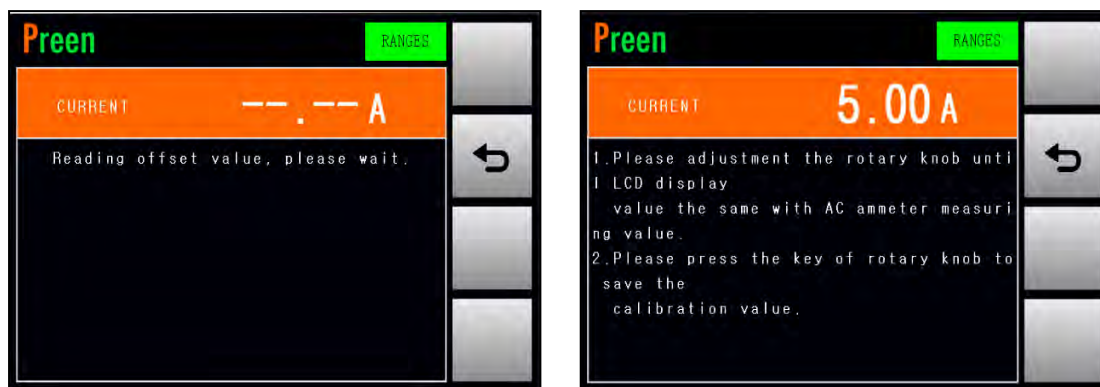

Figure 4.14 Enable the calibration of the HI-Range RMS current
3. Press the output & reset button on the front panel to enable the calibration of the HI-Range RMS current (refer to Figure 4.14), and then the product will start to output the voltage which is closed to 100V.